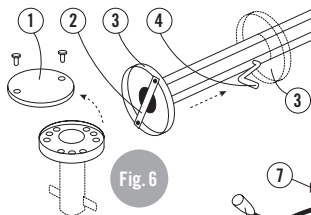
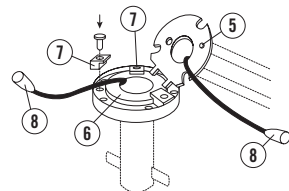

Fig. 6
Fig. 7
- Unscrew lid from ground socket (1) (Fig. 6).
- Remove fixing stay (2) from pole base and push jacking ring (3) up over crank opening (4). Pad against pole and secure with inserted crank.
- Loosen safety screw (5), fold out hinge plate (6) and place on ground socket (Fig. 7).
- Tighten hinge disc to ground socket using twisting mounts (7). Use central threaded holes.
- In the case of sunshades with electrical installation, connect plug (8). Stow loose cable in the ground socket.